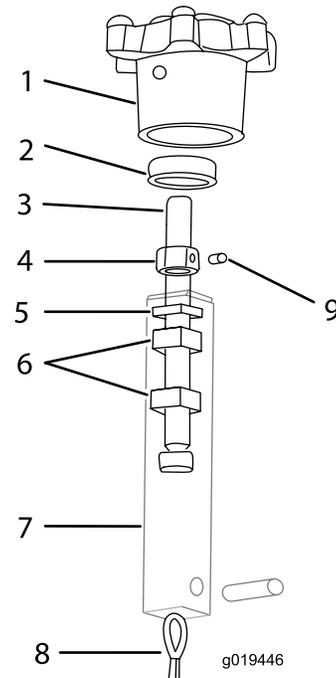

Figure 27
4. Turn the tilt knob until there is enough cable slack to access the tilt locknut (Figure 27).
5. Tighten the locknut against the bearing then loosen it slightly. Set it with the set screw (Figure 27).